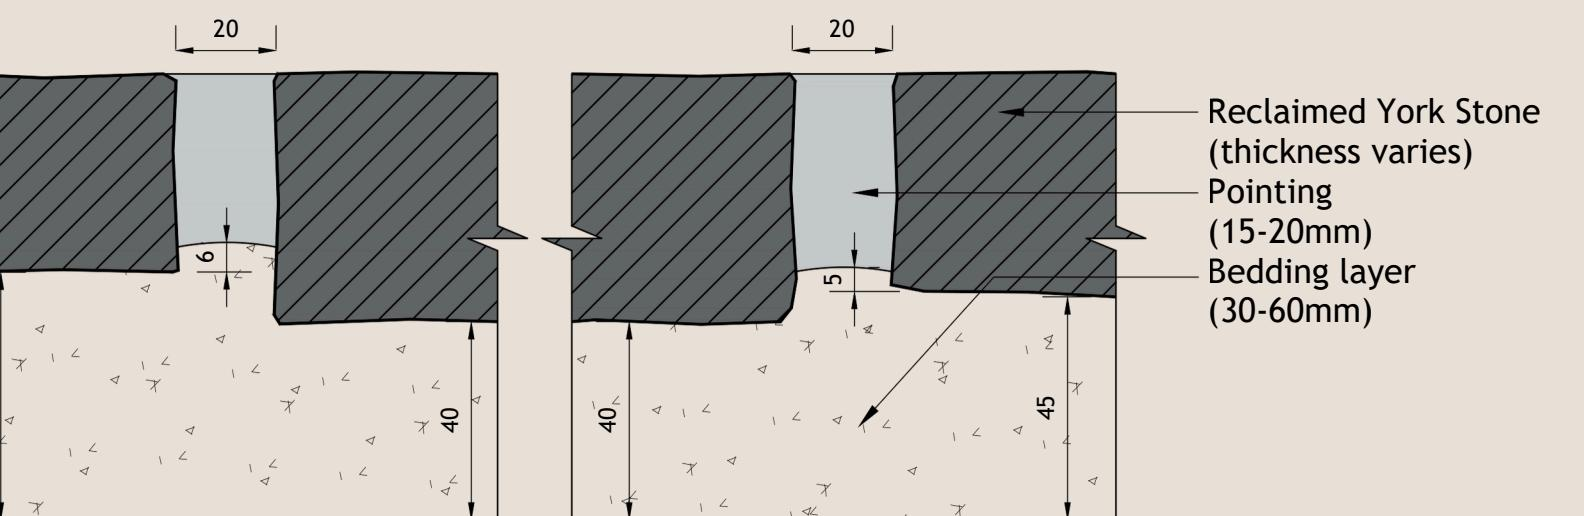

Fig. 3: Typical section through the bedding layer
2.7.3 Preparing the bedding layer (SEE FIG. 3):